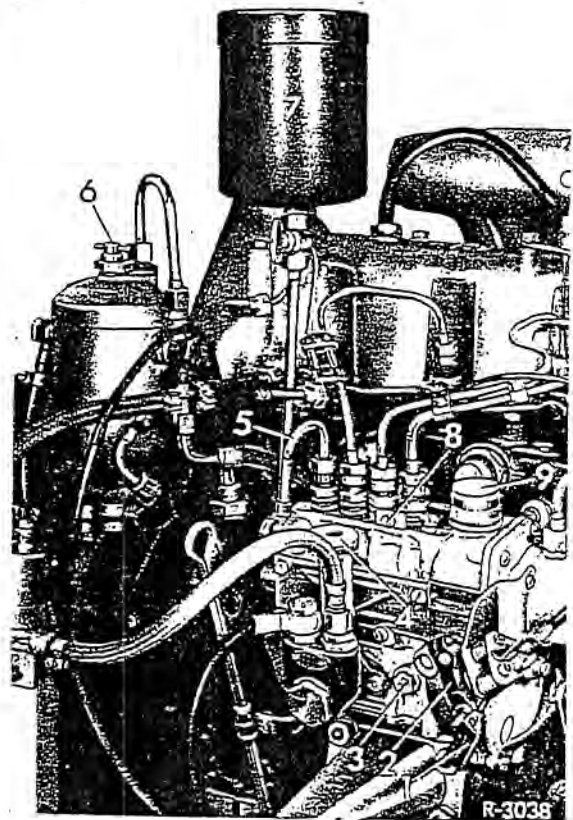

Fig. 07-12/9
15. Connect the fuel tank (7) to the injection pump, fill it with clean fuel and open the stop cock of the fuel tank (Fig. 07-12/9).